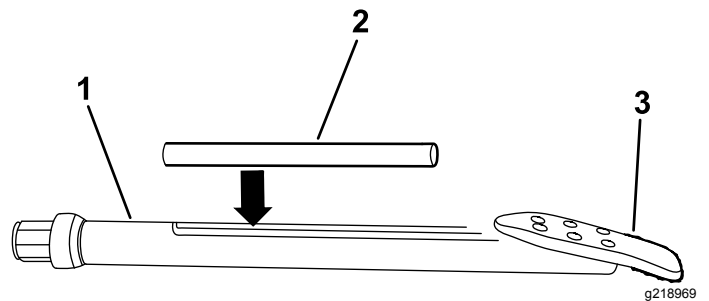

Figure 56
3. Insert the sonde beacon with the forward end toward the drill bit into the sonde housing (Figure 56).